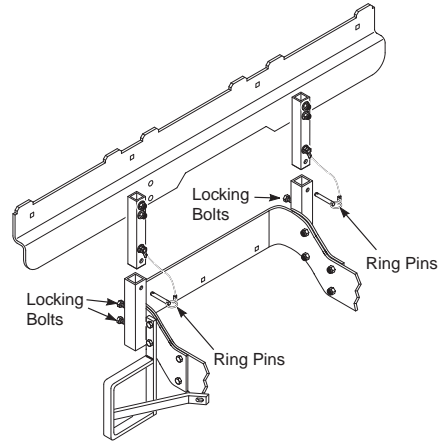

FIGURE 3-6
13. Attach the hood assembly to the machine by installing the mounting post into the hopper mounting brackets. Secure with the ring pins and tighten the locking bolts. See Figure 3-6.